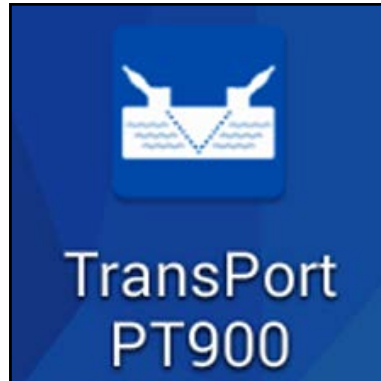

Figure 57: PT900 APP Icon
1. After the APP has been downloaded to your tablet, find the icon shown in *Figure 57* below on the tablet APPS and click on it to launch the APP.